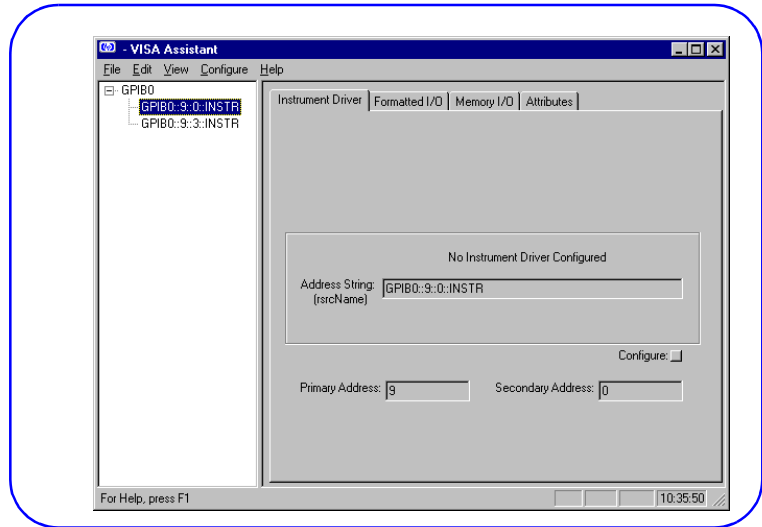

Figure 28. VISA Assistant Main Menu
- 2 To display the VISA Assistant Main Menu, click *Start/Programs/HP I/O Libraries/VISA Assistant* for a display similar to that in Figure 28. (For this example, we will assume only the HP E1406A Command Module and HP E1411B DVM are installed in the mainframe.)